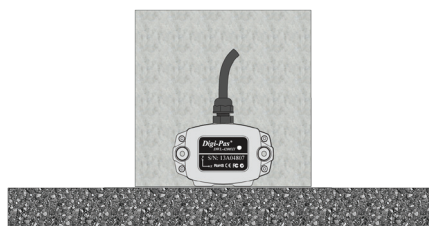

Figure 34. Compact Sensor Module Position of Calibration Step 1
3. Locate the sensor module as following Figure 34. The sensor is ready for user to perform calibration step 1
11. For **DWL4500XY** model, please perform only 4 steps calibration as shown in Figure 34, 35, 40, and 41.